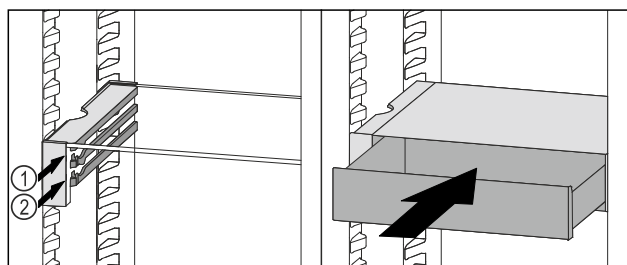

Fig. 174
- Place the VarioSafe drawer behind the stoppers on desired rib *Fig. 174 (1)* or *Fig. 174 (2)*.